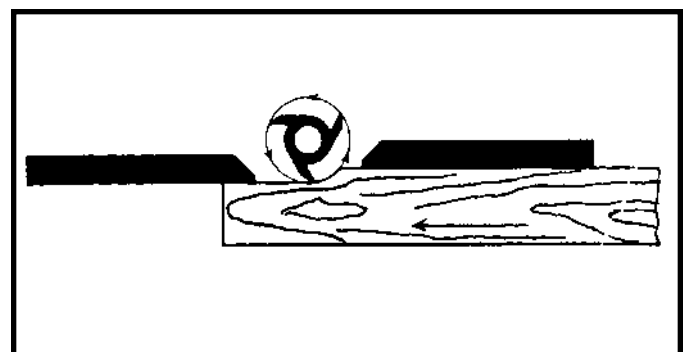

Fig. 62
3. The rear fence should then be advanced to contact the work, as shown in Fig. 62. The rear fence will then be in line with the cutting circle.